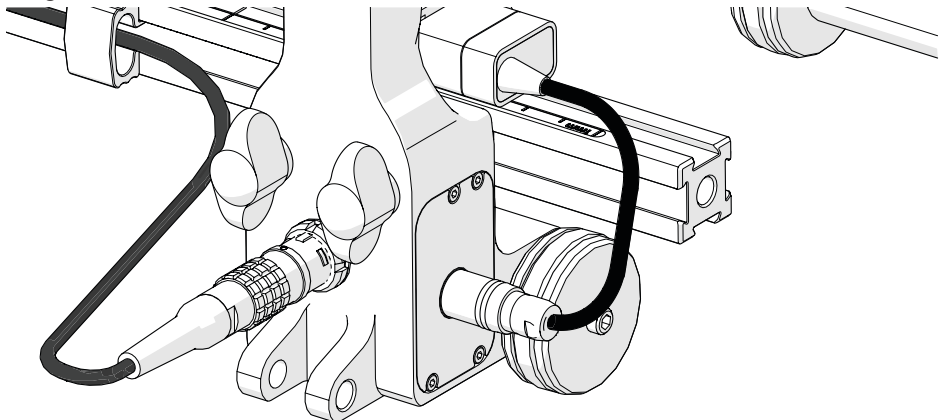

Fig. 47 - Connect index encoder to corrosion link
4. Plug the index encoder connector to the corrosion link (*Fig. 47*).